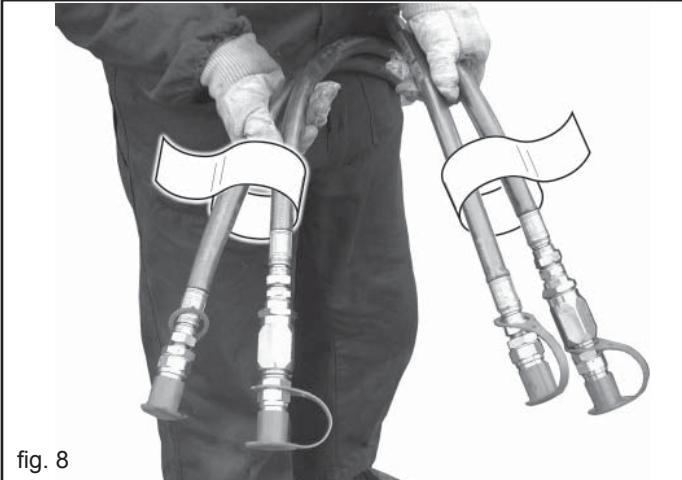

fig. 8
- 3) Connect the trolley's hydraulic driven tubes properly, for road transport, to the tractor's distributors by following the instructions posted on each tube (Fig. 8).